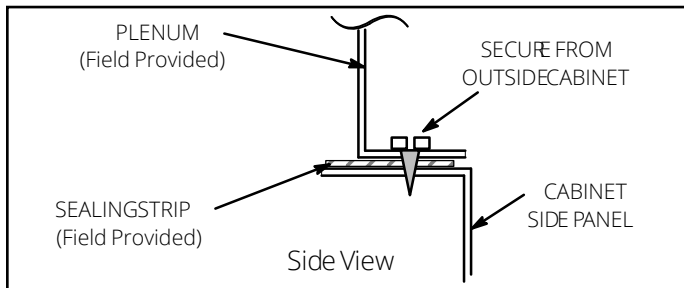
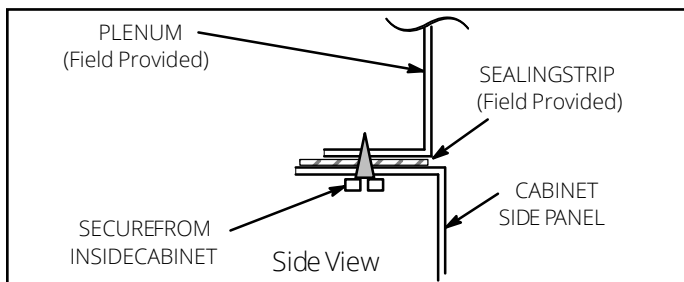

Figure 17.
Figure 18.
1. Bottom edge of plenum should be flanged with a hemmed edge (see Figure 17 or Figure 18).